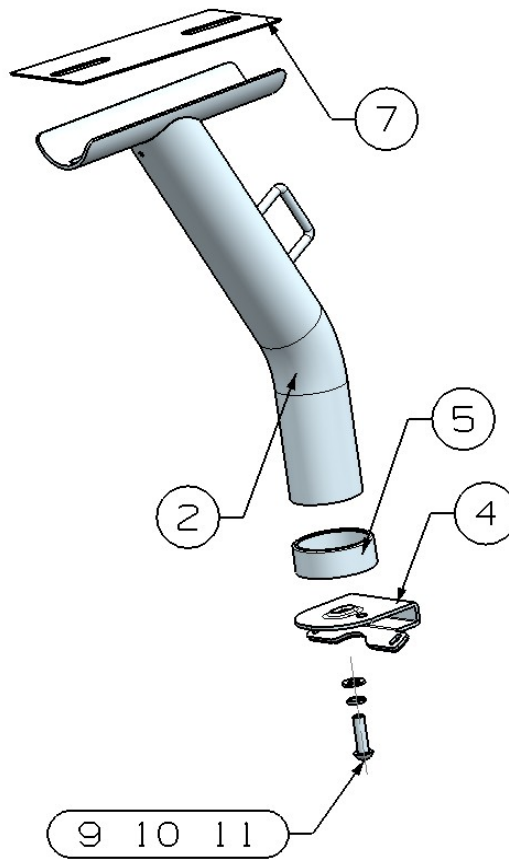

Fig. 2
Step 2: As shown in Fig.2. Put the foam plate 4 on the installation position of Legs , cover the pipe orifice with rubber cover and install the bracket by standard component, do not tighten the screws.